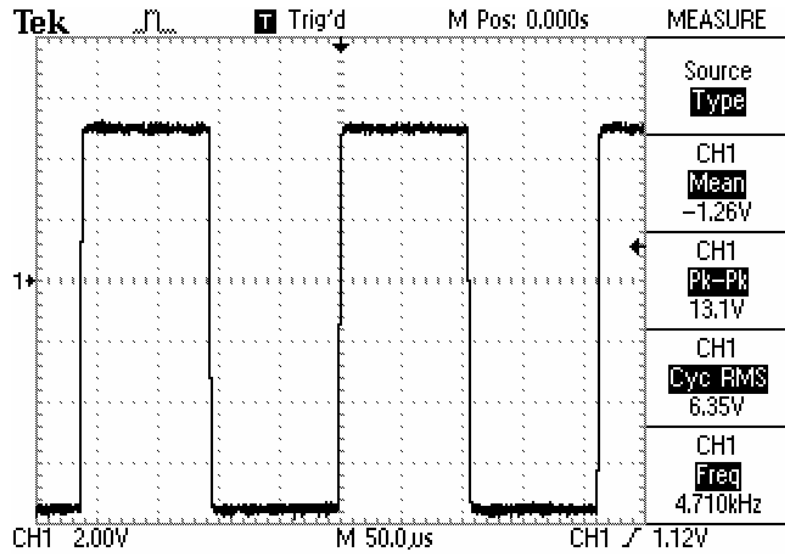

Figure 14: Oscilloscope Display of 5 kHz Square Wave
21. [] Minimize the A&D FINE FRQ control. Verify an output of approximately 5 kHz at 13V Pk-Pk as shown in Figure 14.